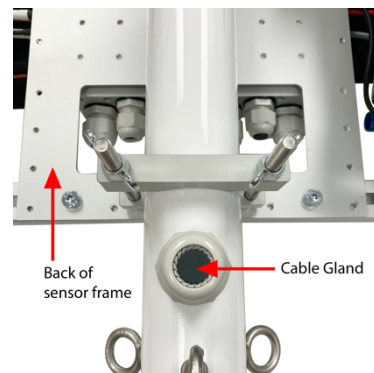

Figure 15. Cable gland and mounting plate
8. Lift the sensor frame and top pole section assembly onto the middle pole section. The back of the sensor frame should be facing the same direction as the cable gland on the top pole section (Figure 15).
9. Secure the pole section with three (3) hex bolts.